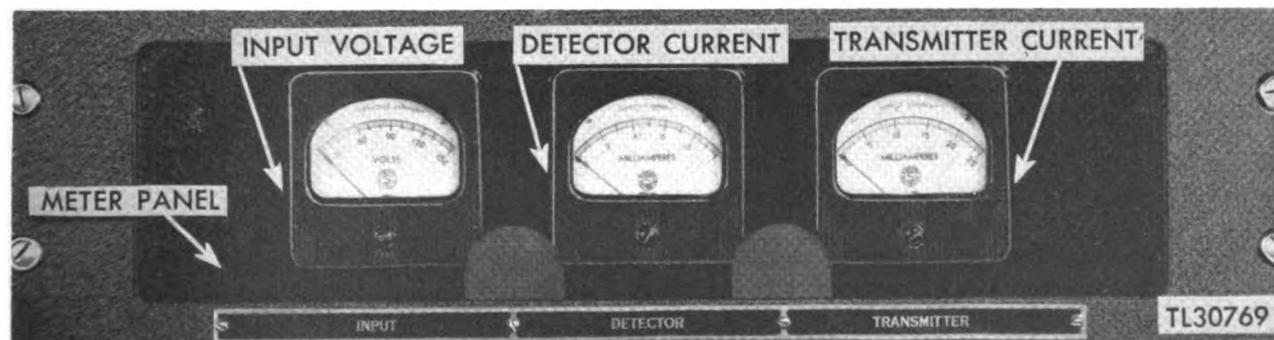

Figure 56. Control panel meter panel.
**LOCATION.** The input voltage is read from the left meter of the meter panel (fig. 56).
c. If the accuracy of the input voltmeter is in doubt, compare the reading with that of the line voltmeter (item 16), making due allowance for any change in the setting of the line variac (1 volt for each division of the variac scale). Normally, the difference between the readings of these two meters (items 16 and 22) will be the same from day to day for any given setting of
**LOCATION.** The transmitter current is read from the right-hand meter of the control cabinet meter panel (fig. 56).
**LOCATION.** The detector current meter is located in the center of the meter panel as shown in figure 56.
- a. Check item 22, input voltage.
- b. Pick up a fixed reference target and maximize the signal on the A-scope by tuning the receiver (see item 52, system sensitivity).